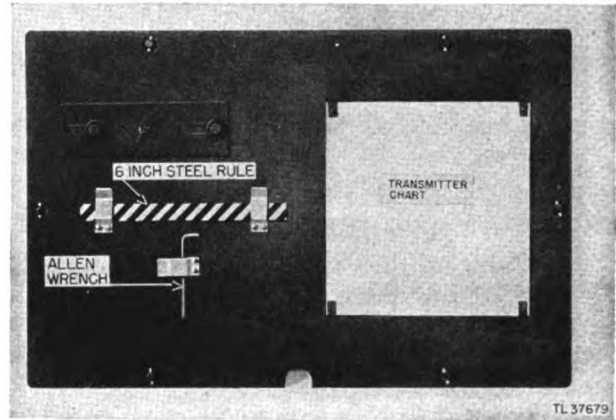

Figure 2. Tools mounted on inside cover of rear of transmitter.
b. **TOOLS IN TRANSMITTER.** Also included with the RC-150 is an Allen wrench and a metal 6-inch ruler (fig. 2) mounted on the inside cover of the rear of the transmitter. These tools are to be used only when adjusting the lecher lines and are not to be removed for any other purpose.